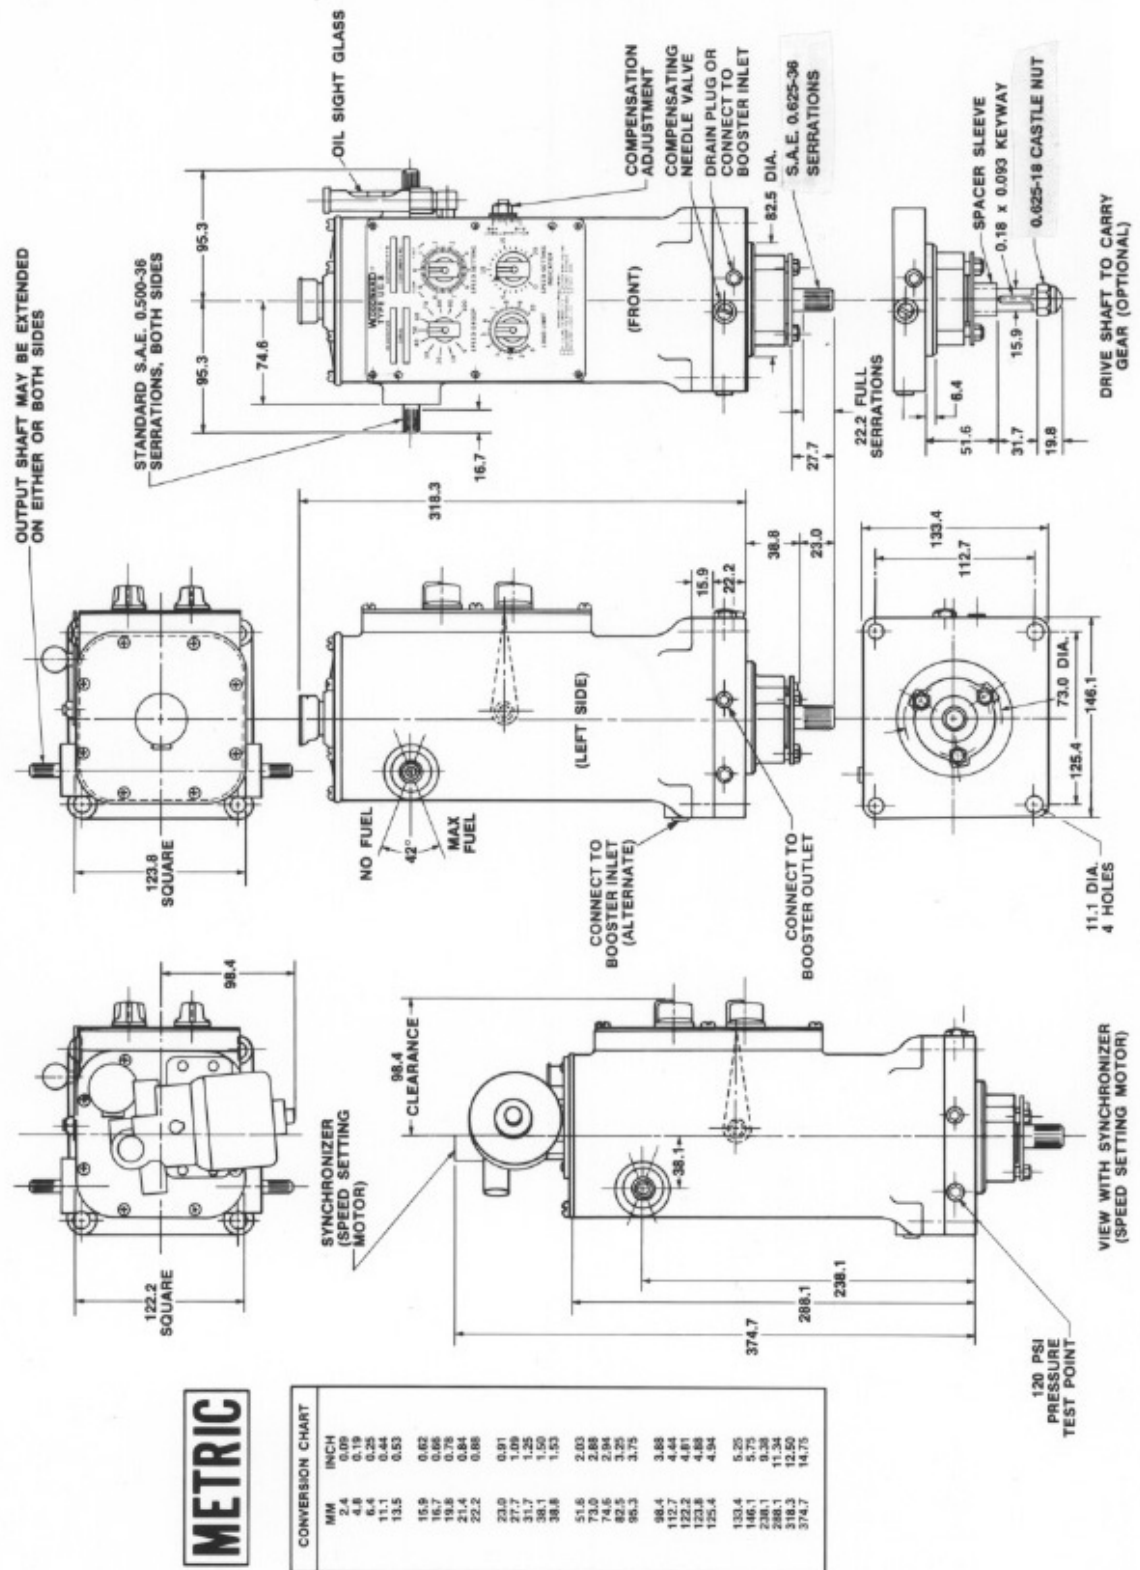

Figure 1-3. UG Dial Governor Outline Drawing
5. See the outline drawing (Figure 1-3) for mounting hole sizes and governor dimensions.
Be sure there is adequate space available around the governor to provide easy access for installing the control linkage, filling the governor with oil, and adjusting the speed and compensation system. See the outline drawing (Figure 1-3) for mounting hole sizes and governor dimensions.